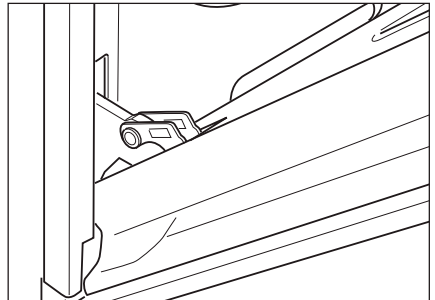

Fig.36d
- Gently close the door until left and right hinge levers "A" are hooked to part "B" of the door (Fig. 36d).